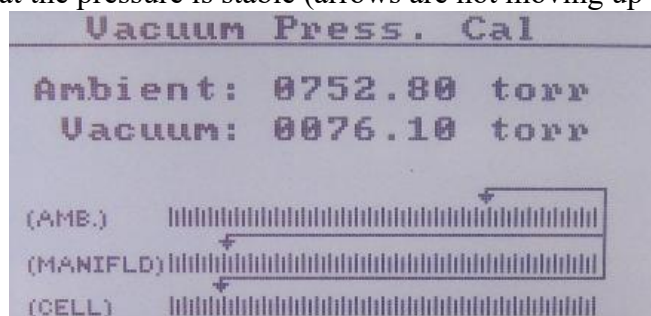

Figure 11 Pressure menu
7. The screen will display three horizontal bar (Figure 11) the first (Amb) is for the ambient pressure sensor, the second (Manifld) is for the pressure sensor in the valve manifold and the third (Cell) is for the pressure sensor
4. The screen will display three horizontal bars (Figure 11) the first (Amb) is for the ambient pressure sensor, the second (Manifld) is for the pressure sensor in the valve manifold and the third (Cell) is for the cell pressure sensor